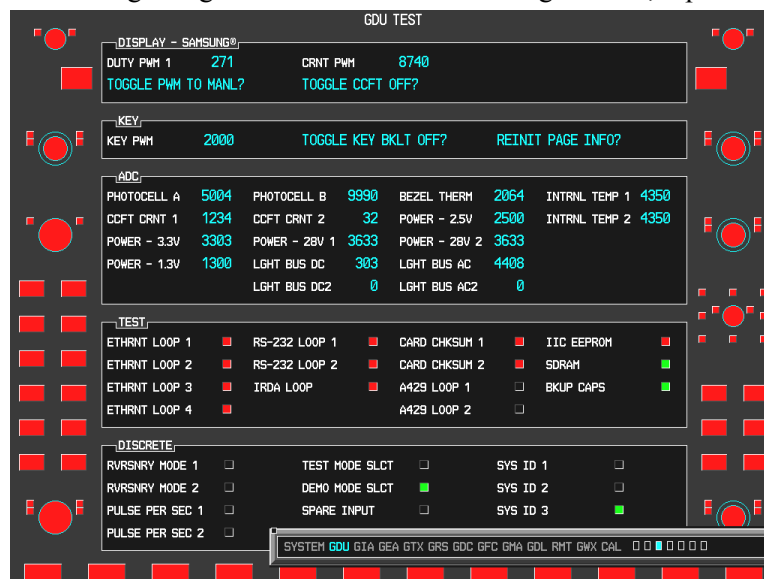

**Figure 4-13. GDU TEST Page**
5. Using the FMS knob go to the GDU TEST page (Figure 4-13) on the MFD and PFD (part of the GDU Page Group).